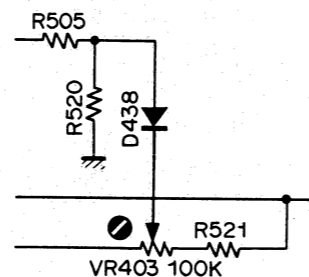

Fig. 4.5
- (1) Load a Stroke Check Gauge M-9035 (DA09035A) in the N-580.
- (2) Set the N-580 in cue mode (FF and Pause).
- (3) Check shall be made to insure whether the "C" mark on the Stroke Indicator locates between the 2 lines on the Stroke Check Plate. If not, then refer to Fig. 4.5 and adjust VR403 of the Logic P.C.B. Ass'y till satisfactory results are obtained.
- (4) After completion of the head base stroke adjustment, check to insure accuracy of the head base stroke in play mode. If the above are inaccurate, items 4.2.2 and 4.2.3 will have to be repeated till satisfactory results are obtained.